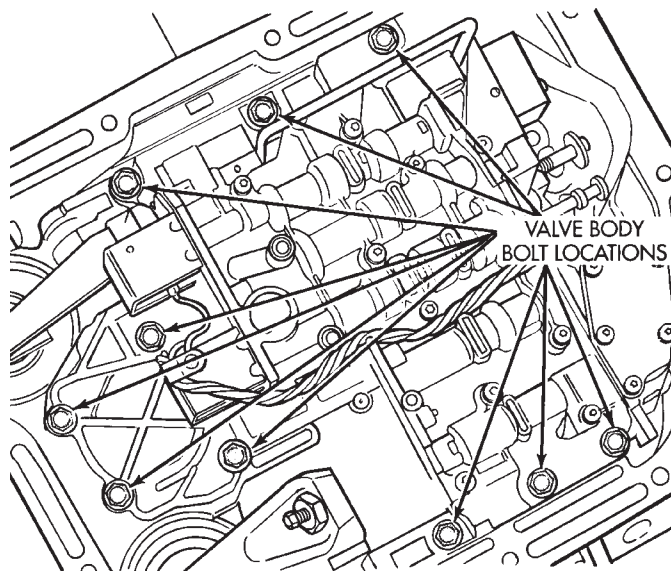

Fig. 14 Valve Body Bolt Locations—46RH
(15) Remove hex head valve body attaching bolts (Fig. 14). A total of 10 hex head bolts are used to secure valve body to case.